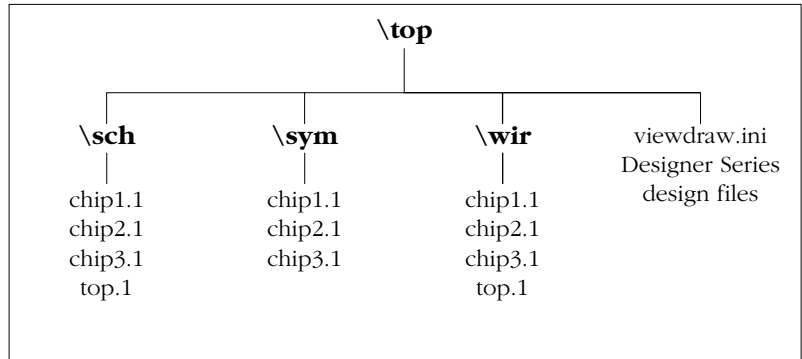

Figure 4-1. Directory Structure for Multichip Simulation
1. **Create a top level schematic and instantiate the individual chip designs.** This example, assumes there are three designs with instance names “chip1,” “chip2,” and “chip3.” The name of the top level schematic is “top.” Figure 4-1 depicts the directory structure